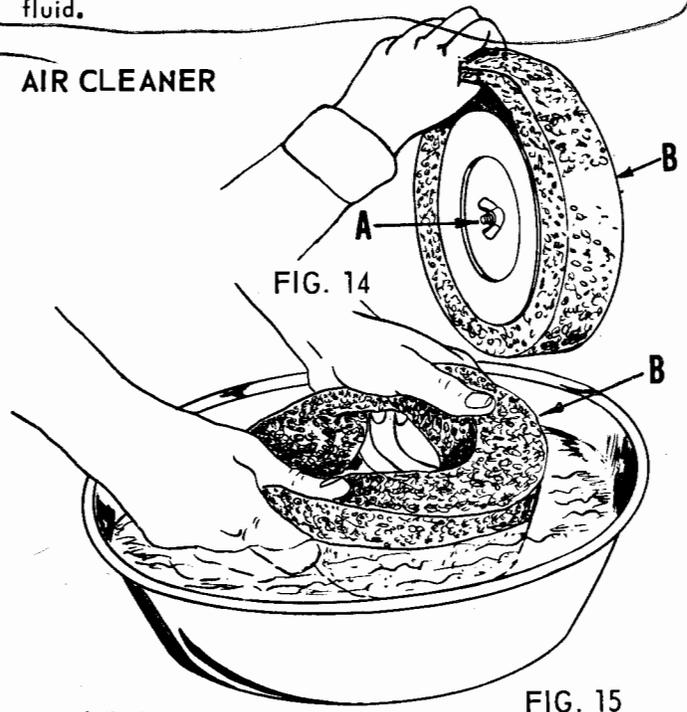

FIG. 15
1. To service the pre-cleaner, carefully stretch pre-cleaner over the outer metal cover and wash in water and detergent, refer to Fig. 15. Remove excess water by squeezing as a sponge and allow to dry thoroughly. Distribute three tablespoons of S.A.E. No. 30 engine oil evenly around pre-cleaner. Knead into and wring excess oil from pre-cleaner.